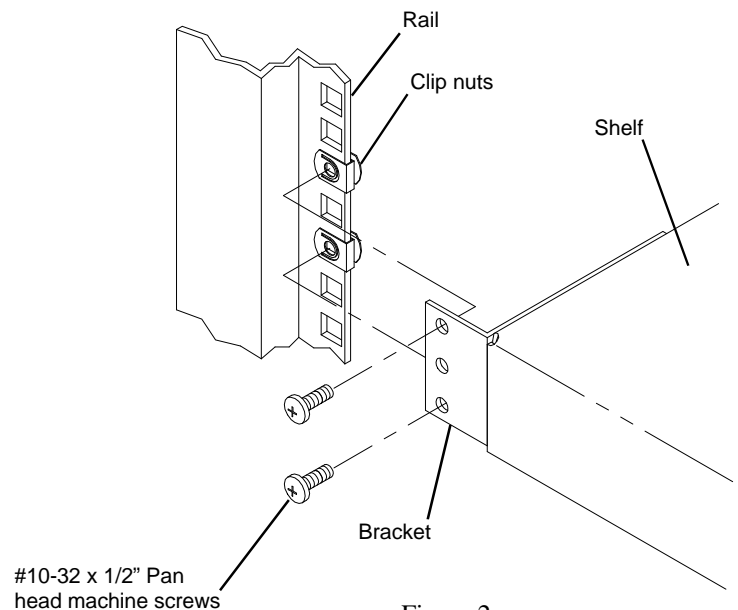

Figure 2
2. Position the **Stationary Shelf** with the four brackets on the correct side of the clip nuts See **Figure 2**.